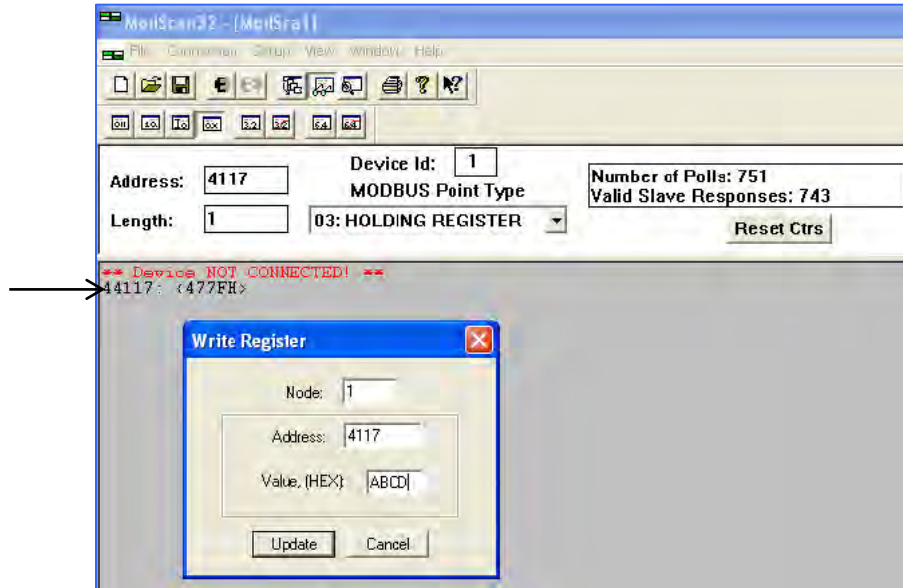

Figure 55 – ModScan32 Connected to Modbus Device with Register 4117 on Display (Totalizer Reset)
- Double click on the register number (see pointer in Figure 55 below). A pop-up *Write Register* window displays. Enter the defined hex value, 0xABCD, in the window's value field, and then click **Update**.